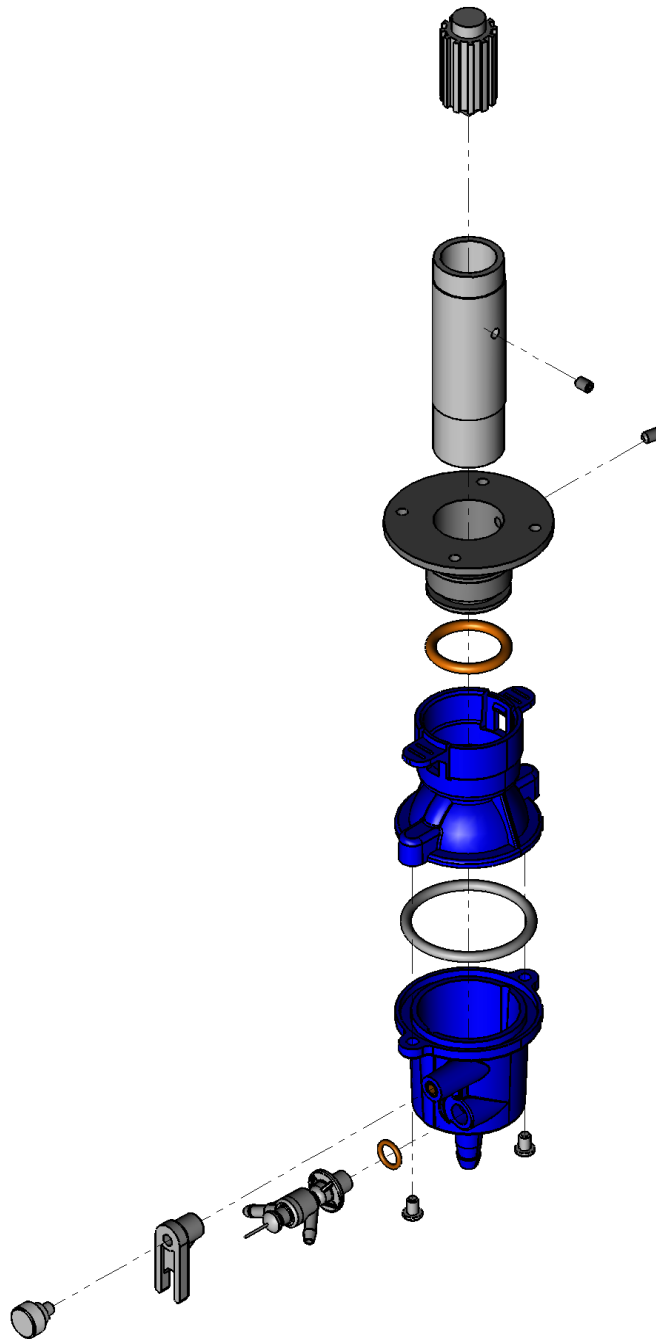

Figure 7.3
- Turn the holding knob on the side of the Mixing Chamber to release the front piece and remove the front piece by pulling it away from the back piece. See Figure 7.3.
- Remove the Baffle assembly by undoing the screw located at the rear of the back piece. See Figure 7.3.